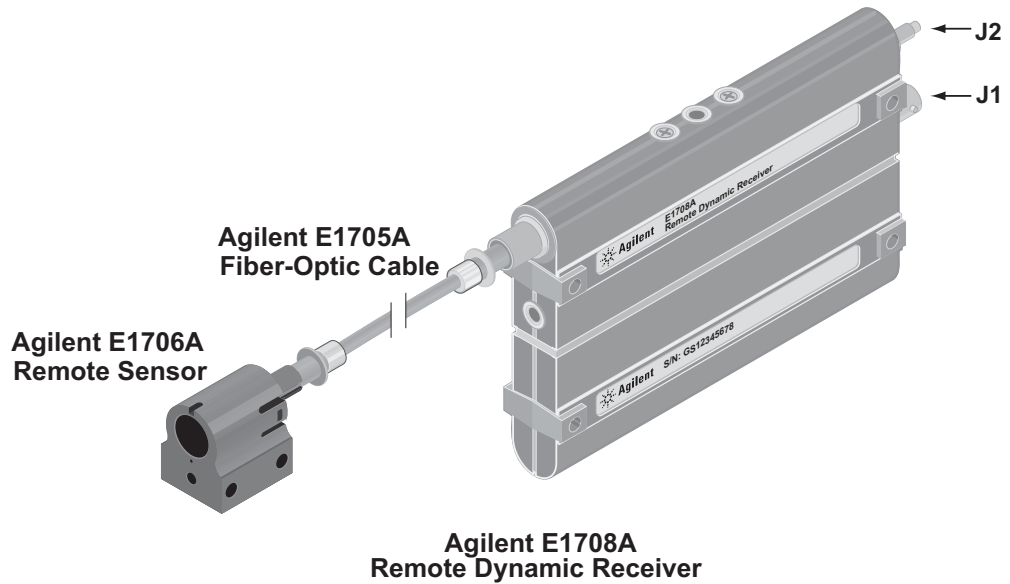

Figure 268 Agilent E1708A Remote Dynamic Receiver
The Agilent E1708A Remote Dynamic Receiver, shown in Figure 268, is intended for use in applications requiring sub-nanometer resolutions of systems in motion. It extends the performance of systems that use the Agilent 10897C High Resolution Laser Axis board for VMEbus by providing performance consistent with the high resolution and low variable data age of that board. As the Doppler shift caused by motion of the system stage changes the measurement frequency, the Agilent E1708A receiver ensures minimal phase processing errors. The E1708A also provide immunity to errors induced by changes in measurement signal (laser input) power level.
The Agilent E1708A receiver's body contains the photodetector, preamplifiers, and a detector circuit designed to convert the laser beam returning from an interferometer into a differential square wave at the Doppler frequency (100 kHz to 7.2 MHz). The Doppler frequency contains the measured displacement information (MEAS signal), representing the relative motion between an interferometer and its associated reflector. A squelch circuit allows the receiver's signal output to be turned off automatically if the input signal is not strong enough. A secondary output from the receiver is a dc level that is proportional to the input signal strength. LED indicators on the receiver light when any input signal is detected. For a block diagram, see Figure 268.
- 8 Signal strength connector (J2, see Figure 268)
- 9 Output signal/input power connector (J1, see Figure 268)